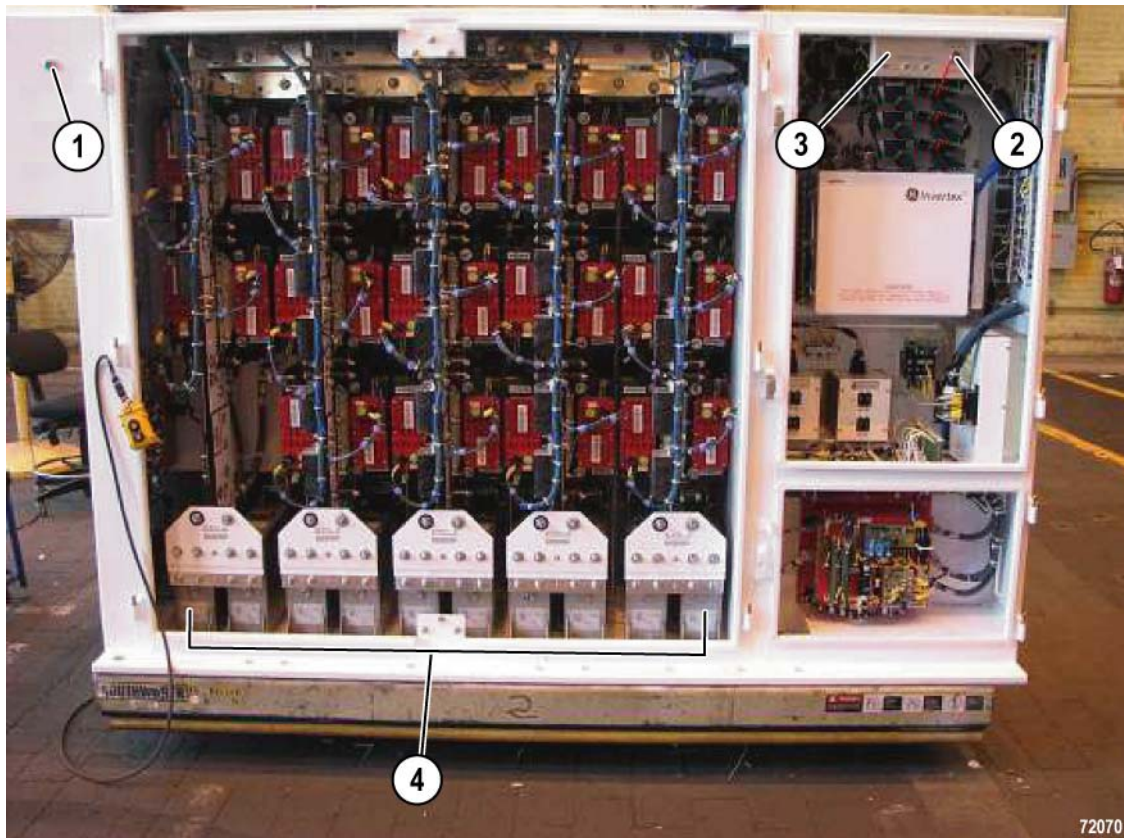

FIGURE 20-6. CAPACITOR CHARGE LIGHTS
2. Observe both capacitor charge lights (CCL1, CCL2). CCL1 is on the outside of the contactor box. CCL2 is on the switch panel inside the low voltage area. The lights will stay illuminated as long as the voltage on the DC link is greater than 50 VDC. Refer to Figure 20-6.